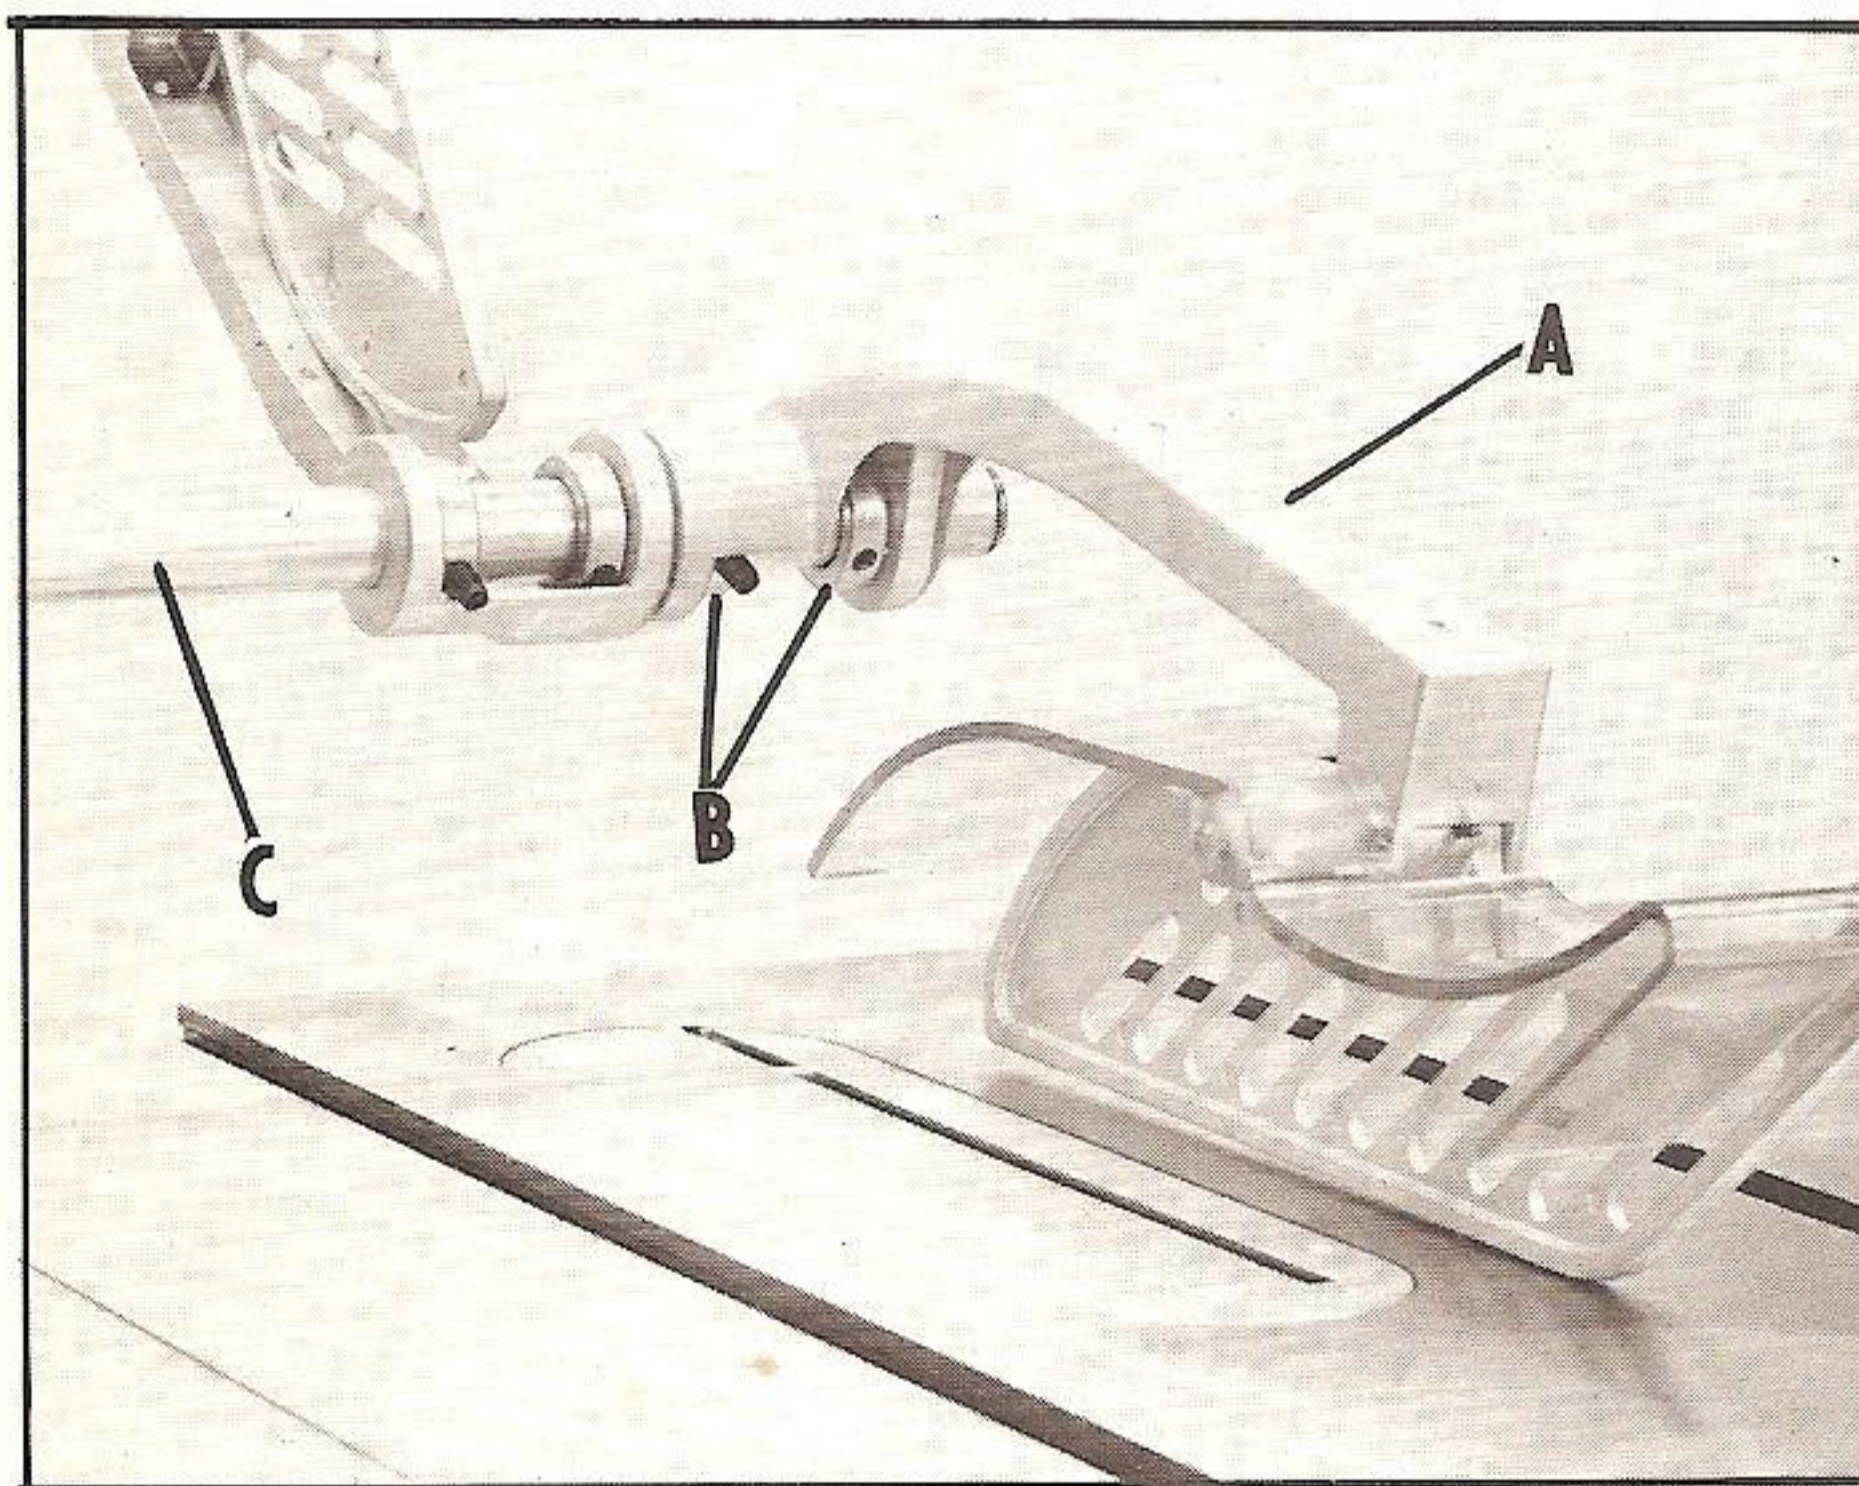

Fig. 18
7. Place the basket and shield assembly (A) Fig. 18, and two collars (B) on the support arm (C) and tighten set screws in collars (B) by following instructions listed in STEP 6.